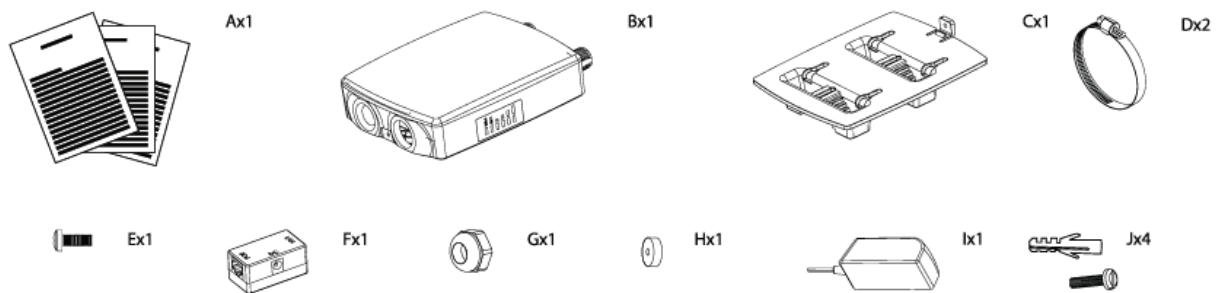

Figure 1 – APC 2M Package Contents
- Step 2.** Insert the clamps (item D in the *Figure 1 – APC 2M Package Contents*) on the mounting plate (item C in the *Figure 1 – APC 2M Package Contents*) as displayed below:
- Step 5.** Connect Ethernet cable into the APC 2M then insert a rubber gasket (item H in the *Figure 1 – APC 2M Package Contents*) into CAT5 Ethernet connector gland and tighten with gland cap (item G in the *Figure 1 – APC 2M Package Contents*) as displayed below:
- Step 6.** After attaching the APC 2M to the mounting plate, fasten the unit to the bottom near the CAT5 Ethernet plug using screw (item E in the *Figure 1 – APC 2M Package Contents*).
- Step 2.** Attach APC 2M mounting plate (item C in the *Figure 1 – APC 2M Package Contents*) to the wall using screws (item J in the *Figure 1 – APC 2M Package Contents*) as displayed below:
- Step 3.** Connect Ethernet cable into the APC 2M then insert a rubber gasket (item H in the *Figure 1 – APC 2M Package Contents*) into CAT5 Ethernet connector gland and tighten with gland cap (item G in the *Figure 1 – APC 2M Package Contents*) as displayed below:
Step 5. After attaching the APC 2M to the mounting plate, fasten the unit to the bottom near the CAT5 Ethernet plug using screw (item E in the *Figure 1 – APC 2M Package Contents*).